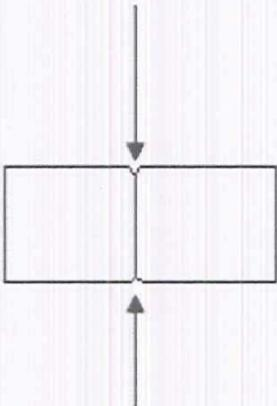

Figure 1.
6.3.1.1 Thru-Wall. The condition associated with any discontinuity which has a migration path from one side of a material surface to the opposite side of the same wall (see Figures 1 and 2).